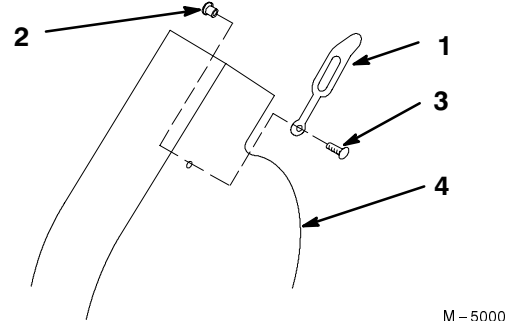

Figure 5
1. Remove the discharge rubber latch from blower housing as shown in figure 5.